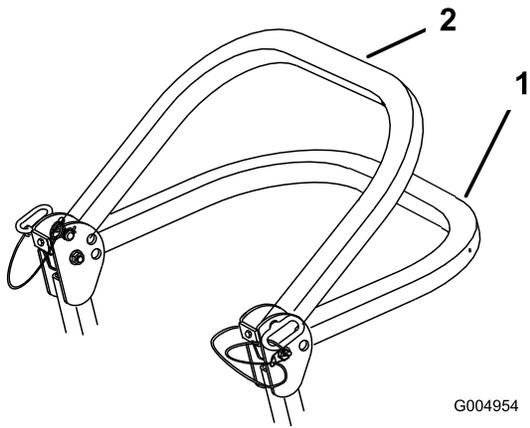

Figure 10
2. Lower the roll bar to the down position (Figure 10).
Note: There are 2 down positions; refer to Figure 10.